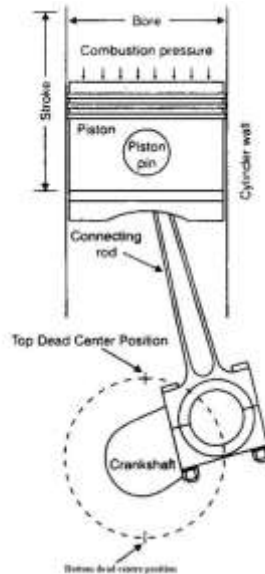

Fig.5. Diagram showing TDC and BDC positions
- **Bore:** Bore is the diameter of the engine cylinder (Fig.5).
- **Stroke-bore ratio:** The ratio of length of stroke (L) and diameter of bore (D) of the Cylinder is called Stroke-bore ratio (L/D). In general, this ratio varies between 1 to 1.45 and for tractor engines, this ratio is about 1.25.